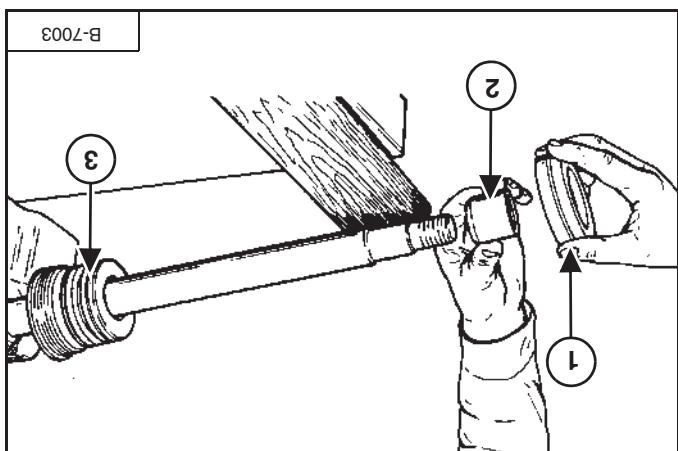

Figure 112
Pull the piston off the rod [item 1]. If the cylinder has a cushion sleeve [item 2], pull it off the rod. Pull the head [item 3] [Figure 112] off the rod.